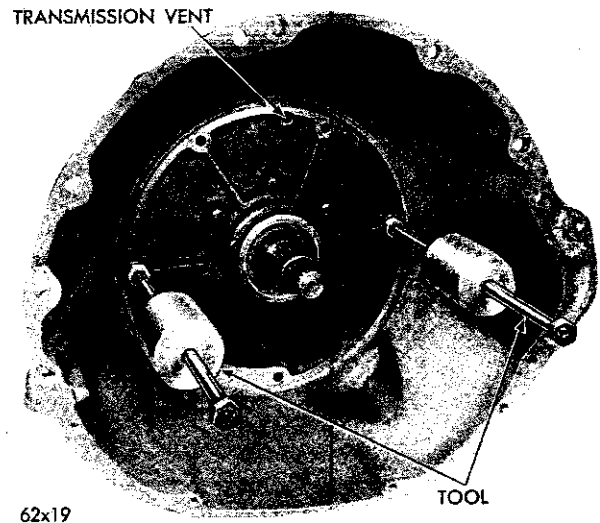

Fig. 51—Removing Front Oil Pump and Reaction Shaft Support Assembly
- (1) Remove the front oil pump housing retaining bolts.
- (2) Tighten the front band adjusting screw until the band is tight on the front clutch retainer. This prevents the clutch retainer from coming out with the pump which might cause unnecessary damage to the clutches.
- (3) Attach Tool C-3752 to the pump housing flange as shown in Figure 51, thread the screws of the tool into the flange holes at 9 and 3 to o'clock locations.
- (4) Bump outward evenly on the two "knocker weights" to withdraw the oil pump and reaction shaft support assembly from the case.